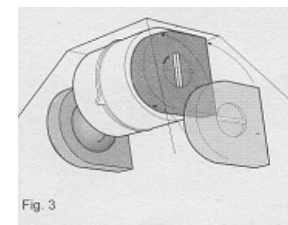

Fig. 3
3. If the filters have not been installed, place one filter on each side so that they cover the grates protecting the rotor on the motor. Then turn the centre handle for the filters in the clockwise direction (Fig. 3).